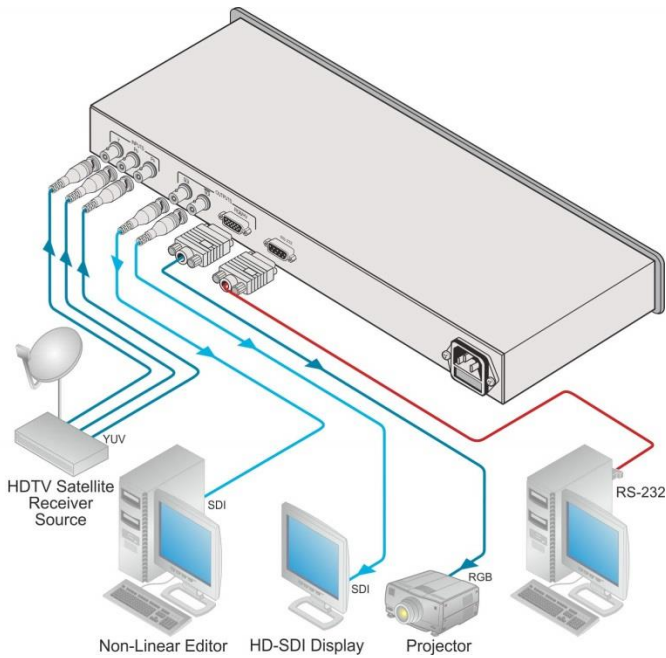

Figure 3: Connecting the FC-42 Component to HD-SDI Converter
To connect the **FC-42**, as illustrated in the example in Figure 3, do the following:
4. Connect the power cord (not shown in Figure 3).